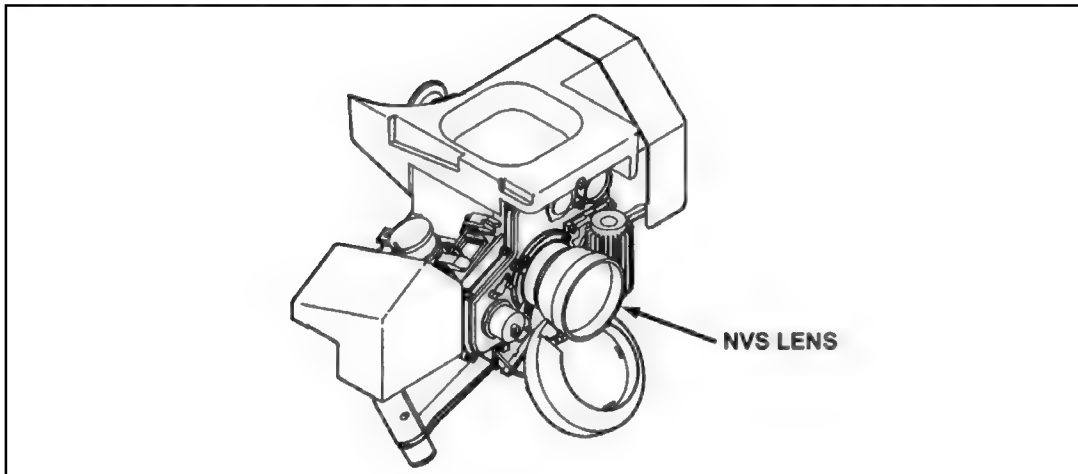

Figure 1-11. Night vision sight lens.
Backblast Area (See Figure 1-11 and Appendix A for safety factors.)	Primary danger zone extends out 25 meters at a 60-degree (cone shaped) angle.
f. **Night Vision Sight.** The NVS is the primary sight used by the gunners (Figure 1-11, page 1-8). The NVS is an imaging infrared (I2R) system, used during day